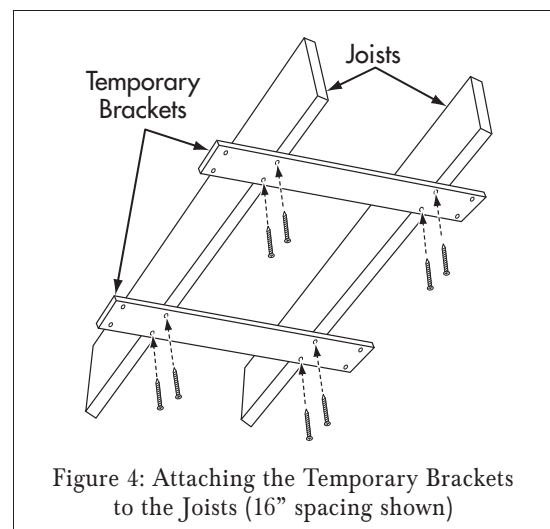

Figure 4: Attaching the Temporary Brackets to the Joists (16" spacing shown)
4. Screw the two Temporary Installation Brackets across the underside of the joist bay at the locations indicated on the Drilling Template (see Figure 4). The Temporary Brackets have two sets of pre-drilled holes: One for 24" center-to-center joist spacing, and another for 16" center-to-center joist spacing.